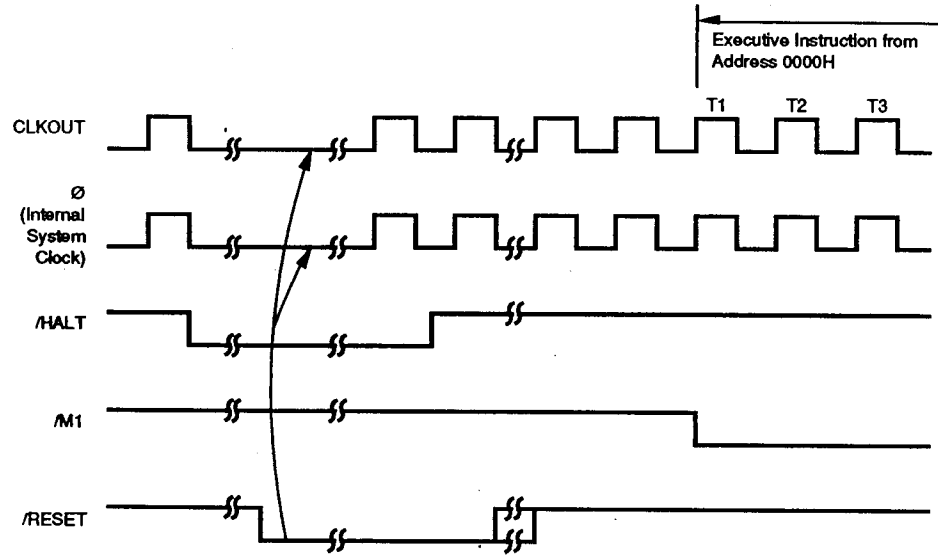

Figure 40. Halt Release Operation Timing By Reset in STOP Mode
**Halt release in STOP Mode (HALTM=10) by /RESET.** When /RESET at "0" level is input into the IPC, the internal oscillator is restarted. However, the internal clock counter for warm-up does not operate. Therefore, the operation is not carried out properly due to unstable clock oscillation. It is necessary to hold /RESET at "0" level for sufficient time. The halt release operation by the IPC resetting in STOP Mode is shown in Figure 40.